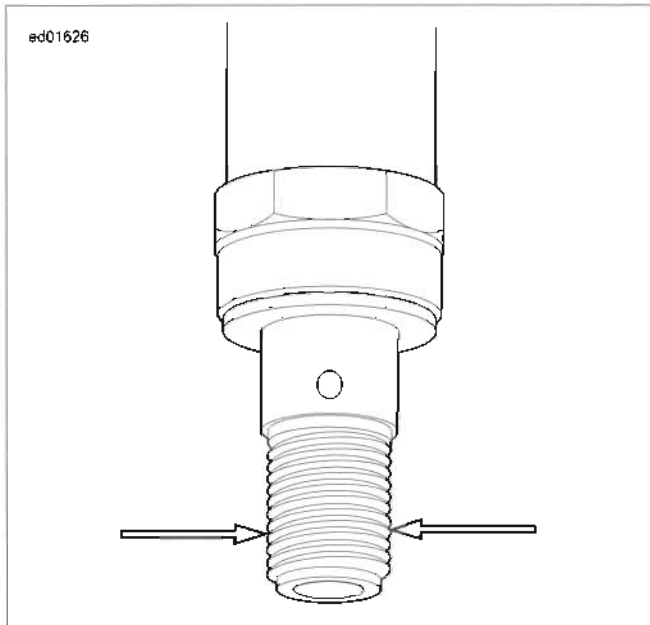

Figure 7-72. Bottom Third
2. See Figure 7-72. Identify a location around the threads of the ACR approximately 1/3 of the way up from the end.